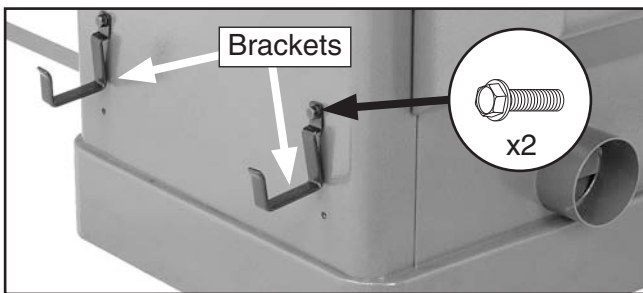

Figure 42. Fence resting brackets installed.
- Install the fence resting brackets (**Figure 42**) onto the back of the cabinet with the two M8-1.25 x 12 flange bolts.